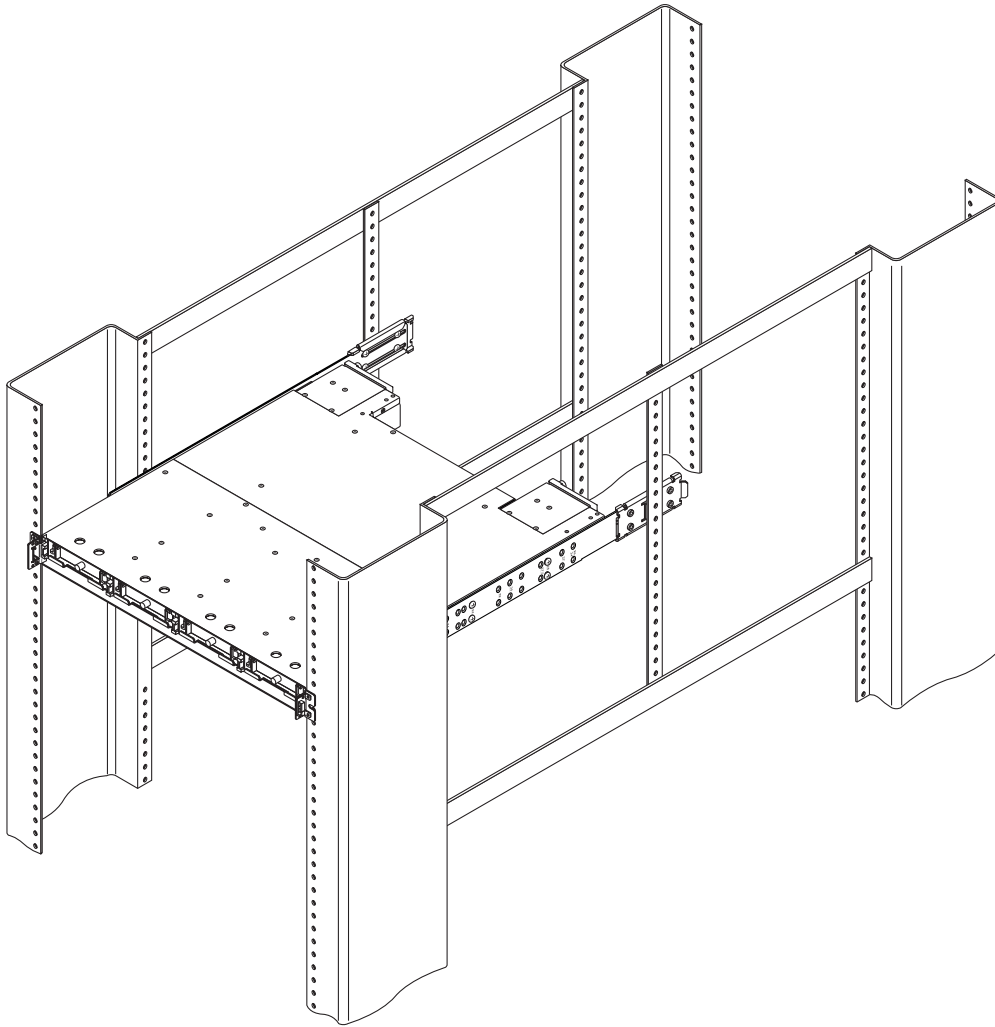

FIGURE 2-2 Rackmounted Cabinet Array Using Middle Brackets With Chassis Ears and Bezels Removed, After Installation
- You can mount a cabinet using middle and side brackets at 24.5 inches (62.22 cm). FIGURE 2-2 displays a completed installation of a Sun StorEdge 3000 Family 1U array in a Sun Fire cabinet using middle and side brackets.
Refer to the parts list in TABLE 2-1 and the illustration in FIGURE 2-2 during installation. The table lists the major components and fasteners required to install an array into the cabinet.